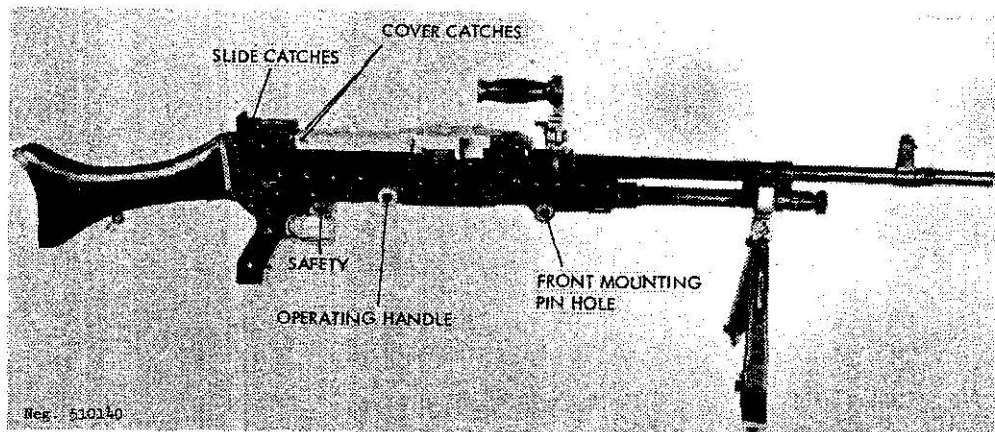
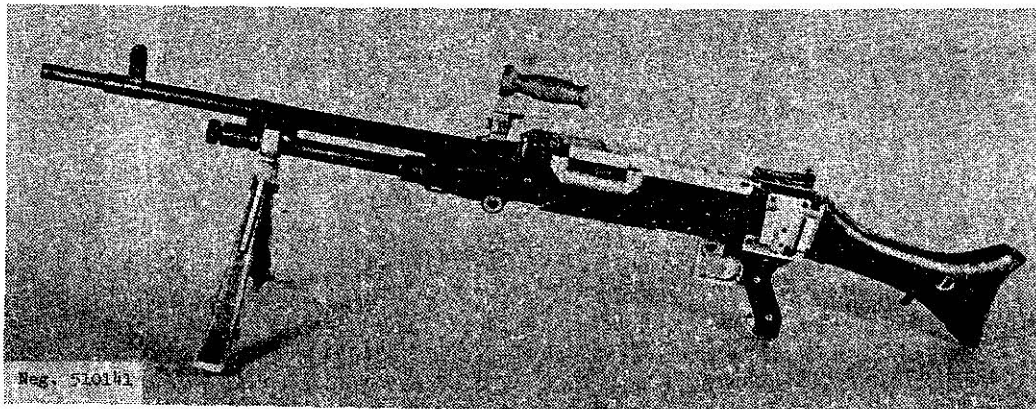
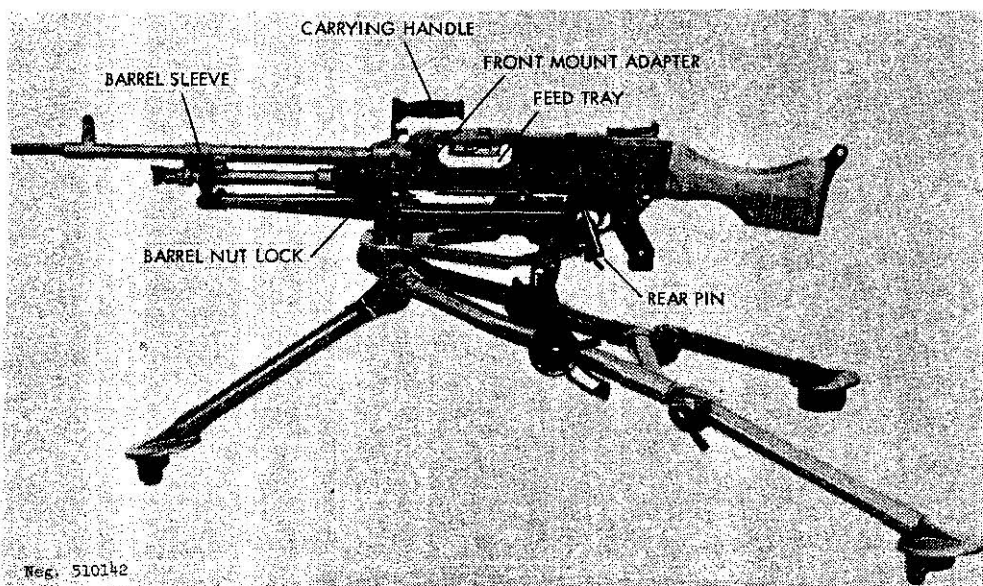
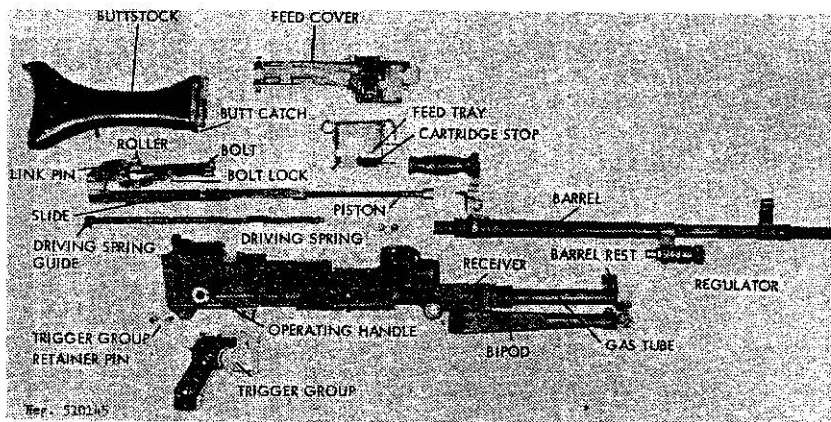

Figure 141. Belgium M.A.G. machinegun.
Figure 142. British L7A1 machinegun.
Figure 143. M.A.G. on tripod mount.
Figure 146. M.A.G. disassembled.
a. The M.A.G. machinegun (fig 141) was developed in Belgium by the F.N. organization in 1958; M.A.G. stands for Mitrailleur a Gaz or gas-operated machinegun. The M.A.G. is used not only by the Belgian Army, but also by British, Swedish, Israeli, and several other armies. The British guns (fig 142) are known as Machinegun 7.62-mm L7A1 (or L7A2) and are so marked on the left side of the receiver. The Swedish gun is the Kulspruta 58, and the other countries usually refer to these guns by the manufacturer's designation: M.A.G. 58.
b. The M.A.G. is an air-cooled, gas-operated belt-fed general purpose machinegun. It is normally fired from its bipod, but it can also be mounted on and fired from a light tripod (figs 143 and 144). The barrel is of the quick change type. Special versions without butt stocks or bipods are available for use in armored vehicles. An accessory butt stock and bipod is carried in the vehicle for use when the gun must be dismounted for emergency ground use.
b. Open the bipod by pressing in the bipod retainers (located on the receiver between the bipod feed), and at the same time, squeeze the bipod legs together to disengage them from the receiver. When the legs are free, swing them to open. To install the gun on a tripod mount, align the front mounting pin hole of the gun (fig 141) with the front adapter (fig 143) and install the front pin. Lower the receiver down onto the rear mount adapter and insert the rear pin. Refer to paragraph 199 for additional information on tripod mounts.
c. Pull the operating handle (fig 141) fully rearward and then thrust it fully forward. Press the safety (fig 141) to the right (to safe "S"). Press the cover catches (fig 141) and open the cover. Place a loaded ammunition belt on the feed tray, open side of the link down, and first cartridge resting against the cartridge stop (fig 141). Close the cover. CAUTION: The gun is now loaded and ready to fire.
d. Lift the rear sight leaf. Press the slide catches (fig 141) and move the slide along the leaf until the top of the slide aligns with the numeral that corresponds to the range in hundreds of meters. The battle sight, visible when the leaf is folded, is for ranges up to 200 meters.
f. When the barrel becomes hot from firing, it should be changed. Press the barrel nut lock (fig 143) and, while holding it in, rotate the carrying handle to its vertical position. (This action rotates the barrel nut and unlocks the barrel.) Pull the barrel forward, out of the gun. Place a cool barrel on the rest at the front of the gas tube (fig 146). Align the rear end of the barrel with its hole in the receiver and seat the barrel. Rotate the barrel handle down to the right until the barrel nut lock clicks into place.
h. The gas regulator should be set so that the figure "1" is just visible under the left side of the sleeve around the barrel (fig 143). This gives a normal firing rate of approximately 650 rounds per minute. If a maximum rate of fire is desired, rotate the regulator until it is fully closed against its stop. Use settings "2" or "3" when the gun starts to malfunction due to fouling. Under very adverse conditions, close the regulator fully.
a. Clear the gun (para 196i). Remove the barrel (para 196f). Press the cover catches (fig 141) and open the cover. Depress the butt catch (fig 146) and slide the butt upward until it is removed.
b. Press the end of the driving spring guide (fig 146) forward, then upward, and ease it to the rear. Remove the driving spring. Hold a hand behind the receiver rear opening and pull the operating handle (fig 141) sharply rearward. The bolt and operating slide will come out of the rear of the receiver and can be removed. Push out the link pin (fig 146) and separate the bolt from the slide.
d. Align the holes in the link and slide and insert the link pin. Start the piston into the receiver. Press the bolt lock (fig 146) against the bolt and pull the bolt as far forward as possible from the slide. Align the bolt up with its guides and push the entire bolt and slide forward. Insert the driving spring into the slide, press the trigger, and use the spring to push the slide (and bolt) fully forward. Press the driving rod forward, against spring pressure, until it can be seated in the slot in the bottom of the receiver.
c. For the M.A.G. tripod, remove the rear pin (fig 143) from its hole, then place the gun on the mount with the gun mount bosses engaged with the shoulders on the front of the front mount adaptor (fig 143). Align the rear pin holes in the receiver with the holes in the mount and insert the rear pin (fig 143). Reverse this procedure to remove the gun. To traverse the gun, loosen the traverse clamp. Tighten this clamp before firing. Fine traverse adjustments are made after tightening the traverse clamp by rotating the fine traverse knob. To elevate the gun, release the clamp on the elevating knob and rotate the knob to elevate or depress the gun. Relock the clamp before firing.